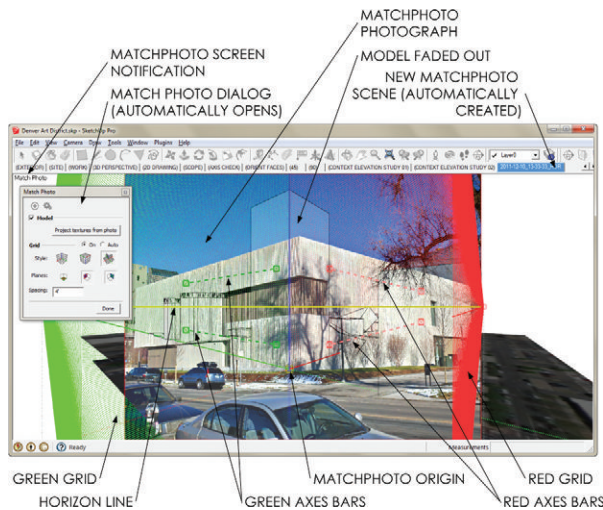

Figure 16.10 The Match Photo interface
2. Navigate to your Project Files folder and select the Match Photo image BIC_01 - Clyfford Still Museum.jpg. Click on Open to return to SketchUp; an admittedly intimidating grid will appear over the photograph. Take a moment to study the image in Figure 16.10.